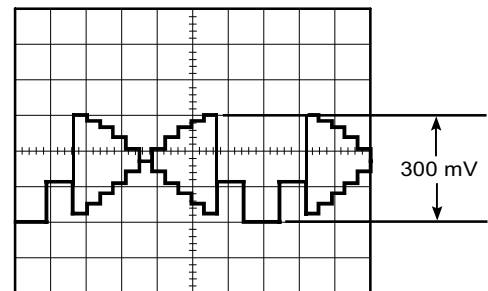

Fig. 3-2
- Set the Lens Iris so that the peak level of the Gray Scale from the Blanking level becomes 300 mV as shown in Fig. 3-2.